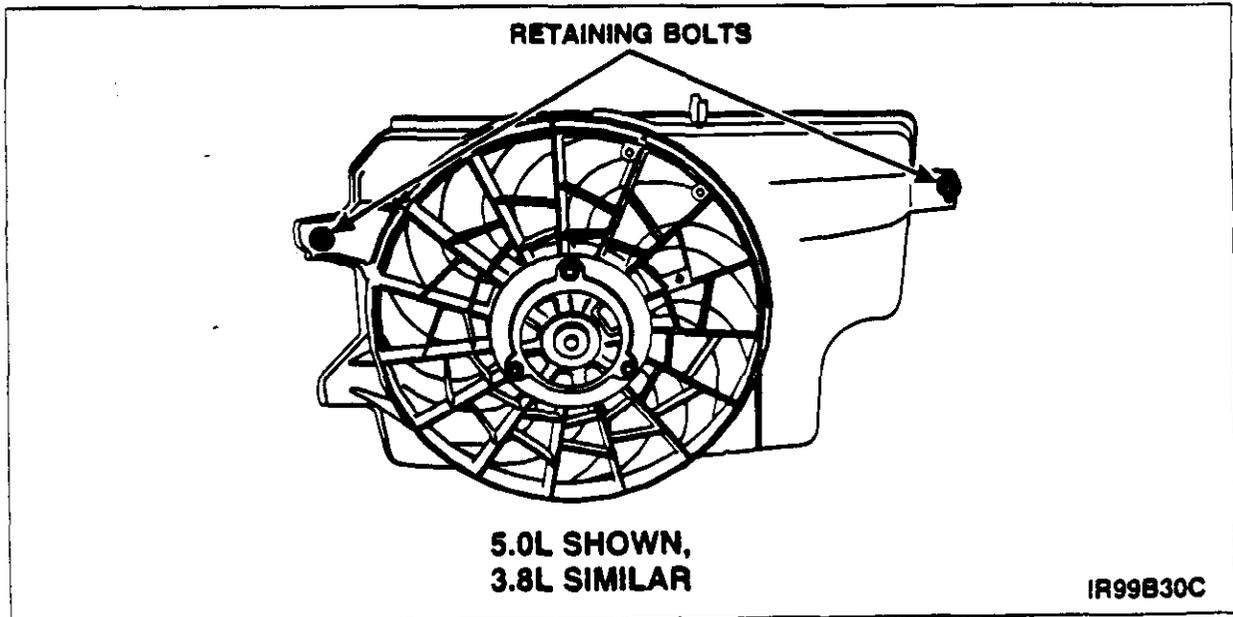

FIGURE 3
11. Remove the retaining bolts, then lift the cooling fan assembly up out of the vehicle. See Figure 3.